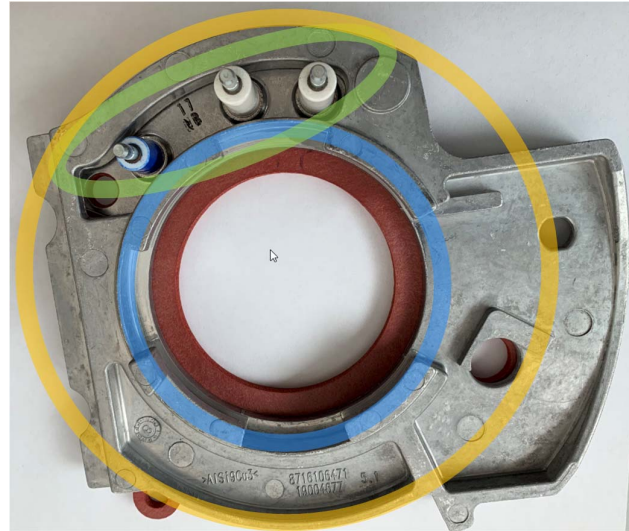

Fig. 1) Burner clamp plate with areas marked for clarity
- Slowly move the probe around the perimeter of the burner clamp plate gasket and around the area where the ignition electrodes are situated (see Fig. 1). The probe should be within 10mm of the gasket.
Fig. 1 shows examples of the typical areas that should be checked with the flue gas analyser as part of the additional check. This includes: